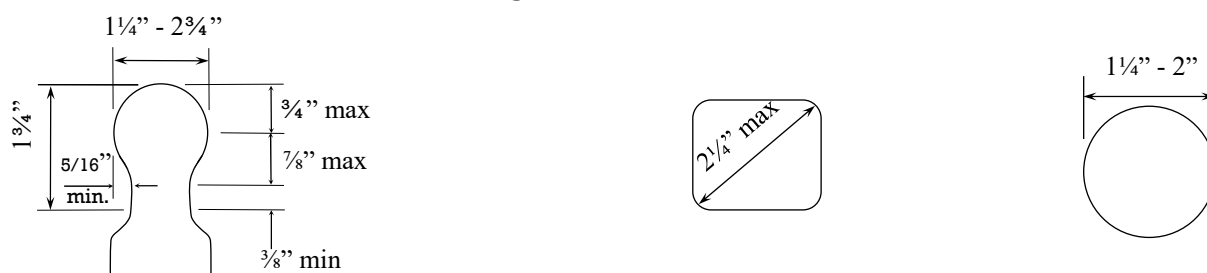

Figure 43: Handrail Graspability
- Handrails shall have a smooth surface with no sharp corners and shall be graspable. Recessed sections may be shaped from a 2x6 or five-quarter board as shown in FIGURE 43.